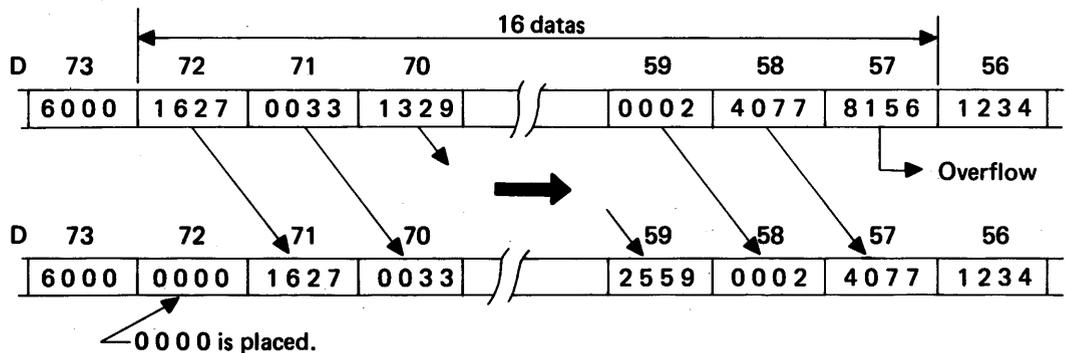

Fig. 5.4.7.2 Batch Shift (Rightward shift)
- (2) The head No. of data register (junior No.) to be shifted should be specified in D110. The head No. should be one with junior No., no matter whether data shift is leftward or rightward, and be "D57" in Fig. 5.4.7.1 and Fig. 5.4.7.2.
- (3) Length of data (words) to be shifted should be specified in D111. When 16 datas are desired to be shifted, for example, "16" is entered in D111. Care should be taken not to enter data over the range at D95 (leftward shift) or D0 (rightward shift).
- (4) Direction of shift is specified in D112.